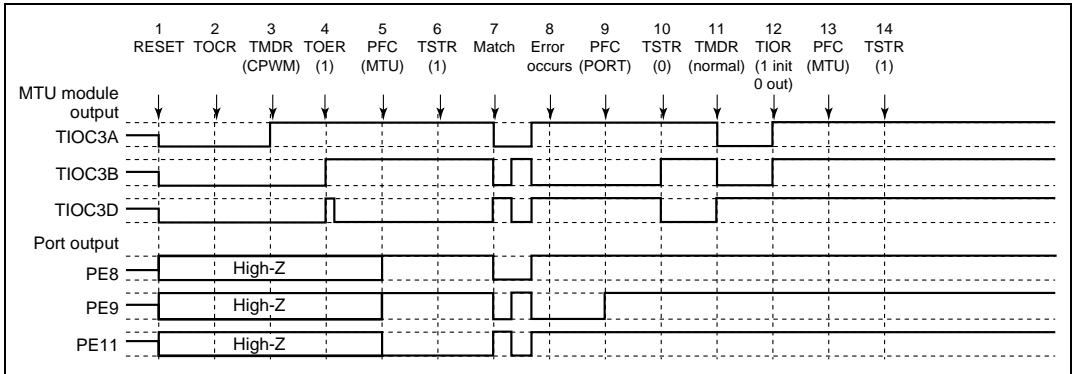

Figure 10.110 Error Occurrence in Reset-Synchronous PWM Mode, Recovery in Normal Mode
(26) Operation when Error Occurs during Reset-Synchronous PWM Mode Operation, and Operation is Restarted in Normal Mode: Figure 10.110 shows an explanatory diagram of the case where an error occurs in reset-synchronous PWM mode and operation is restarted in normal mode after re-setting.
1 to 10 are the same as in Figure 10.110.